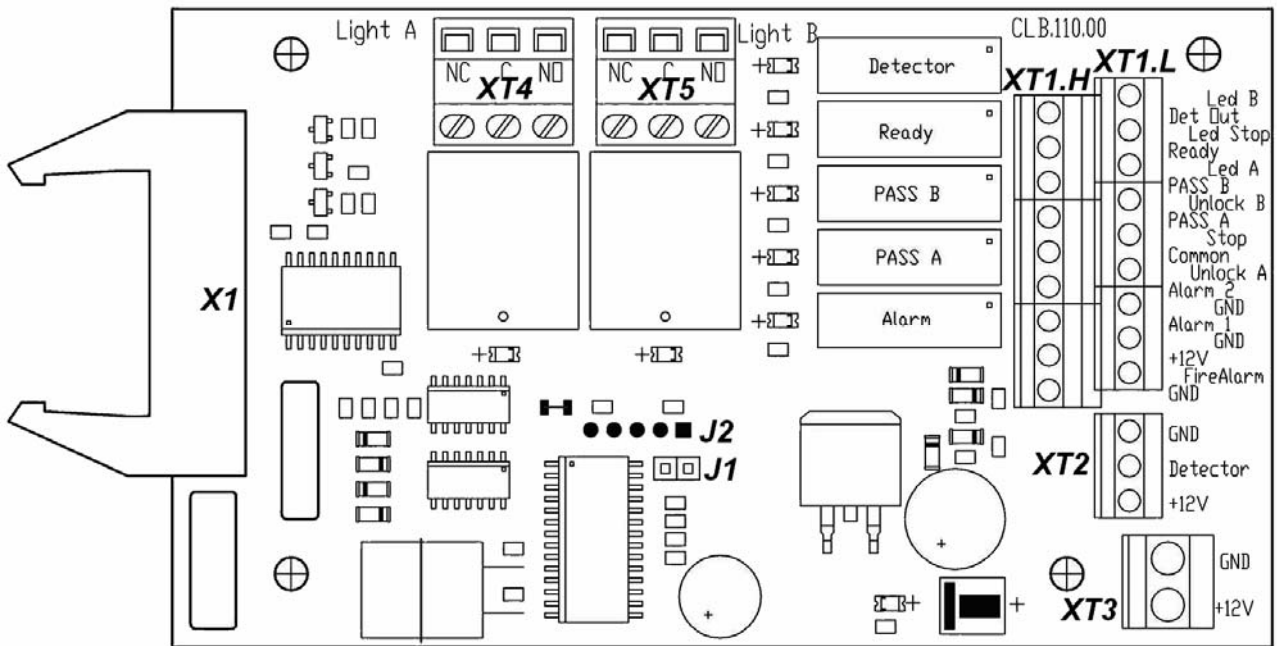
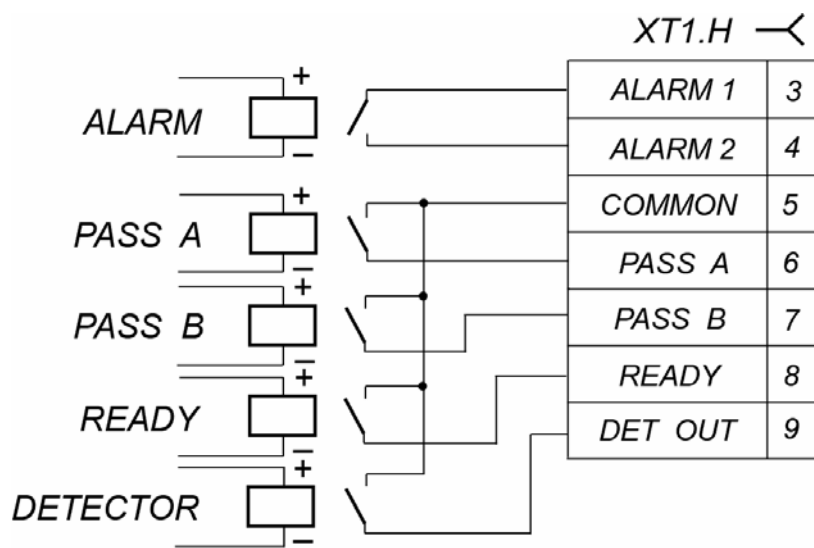

Figure 2. Control Logic Board (CLB)
Figure 6. Output cascades for PASS A, PASS B, Ready, Det Out and Alarm
The CLB (Fig. 2) contains:
Connection of the stated devices is made with the cable (6) to the corresponding connector blocks **XT1.L** or **XT1.H** of the CLB in accordance with the connection layout (Fig.2 and Fig. 10).
If the turnstile orientation relatively to the operator’s terminal is not standard (e.g. the terminal is placed at the backside of the turnstile housing), the RC-panel orientation towards the turnstile can be changed by swapping the RC wires connected to the contacts *Unlock A* and *Unlock B* as well as contacts *Led A* and *Led B* accordingly (Fig. 2 and 10.).
The relays “PASS A” (contacts *PASS A* and *Common*), “PASS B” (contacts *PASS B* and *Common*), “Ready” (contacts *Ready* and *Common*), “Detector” (contacts *Det Out* and *Common*) and “Alarm” (contacts *Alarm 1* and *Alarm 2*) have normally open contacts. The “*Common*” contact, at that, is not connected to the turnstile power supply negative terminal. In the initial (inactive) state, when the power is on, the relay contacts *PASS A*, *PASS B*, *Ready* and *Detector* are closed (voltage is supplied to the relay coil) and the “*Alarm*” relay contacts are broken (voltage is not supplied to the relay coil). Opening/closing of “*PASS A*”, “*PASS B*”, “*Ready*”, “*Detector*” and “*Alarm*” relays are indicated by lighting up/going down of the red test indicators located near the corresponding relays (Fig. 2). The output cascades for “*PASS A*”, “*PASS B*”, “*Ready*”, “*Det Out*” and “*Alarm*” are the relay contacts with the following signal characteristics (Fig. 6):
The control mode is set by the jumper on the **J1** connector (the **J1** connector location is shown on Figure 2: the jumper is installed – the pulse control mode, the jumper is not installed – the potential control mode). The jumper is installed at delivery.
An intrusion detector is connected to the **XT2** connector block, and a siren is connected to the **XT1.H** connector block of the CLB according to the connection layout (Fig. 2 and 10). There should be normally closed contacts on the intrusion detector.
A signal on current status of the intrusion detector is constantly transmitted to the *Det Out* and *Common* contacts of the CLB **XT1.H** connector block (Fig. 2).